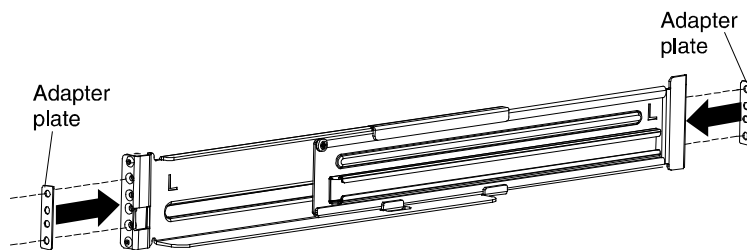

Figure 6. Attaching the Adapter Plates
4. Align the adapter plate holes with the holes on one end of a rail. Press firmly to adhere the adapter plate to the end of the rail, as shown in Figure 6.